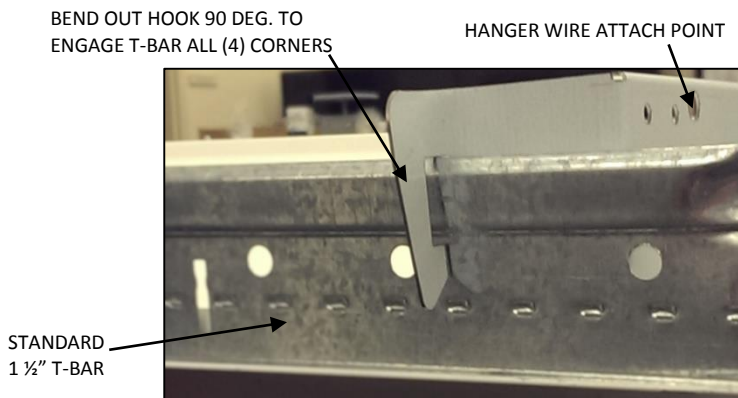

Figure 1: Built In T-Bar Clip
1. Bend the built in T-Bar clips to secure the fixture to the T-Bar ceiling, or use hanger wire hole (see *Figure 1*)